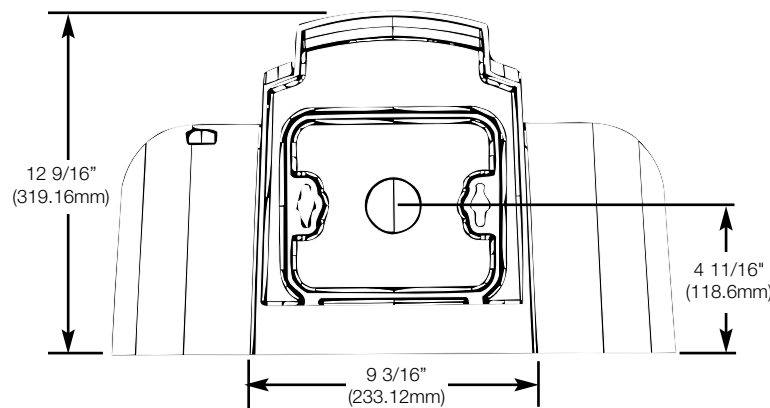

Fig. 1
1. The standard mounting kit may be mounted to any standard, embedded, 4" junction box. It is not for use with a surface mounted J-box. For orientation of fixture to the junction box (See Fig. 1).